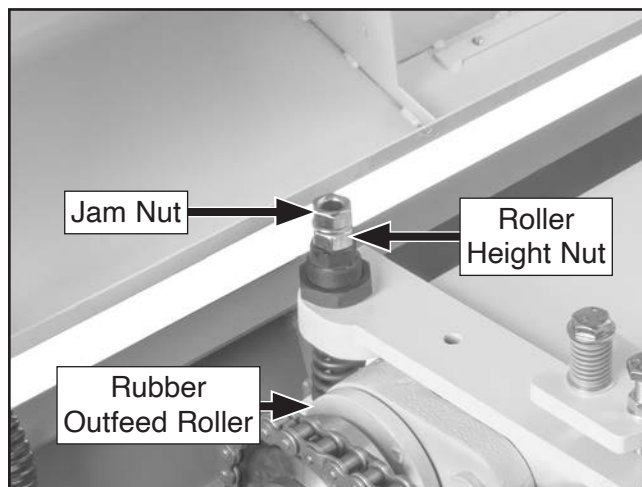

Figure 105. Location of rubber outfeed roller adjustment components.
3. On left side of machine, loosen jam nut, then tighten or loosen roller height nut (see **Figure 105**) on adjustment stud to adjust rubber outfeed roller height so Rotacator/dial indicator reads between 0.70–0.90mm.